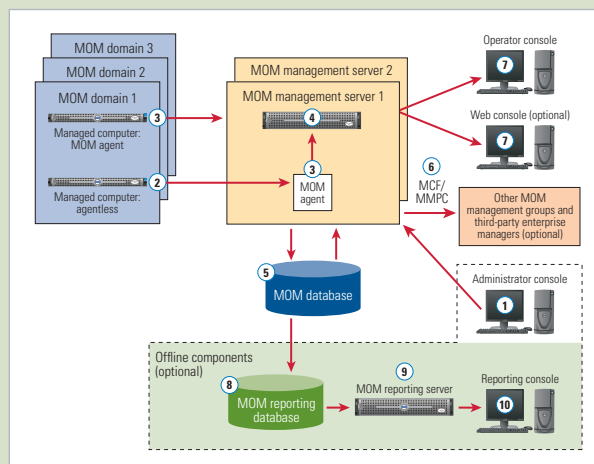

Figure 1. General processing flow of a MOM alert
Figure 1 shows the flow of an alert through the MOM components with numbered tags 1 through 10 (items 1, 8, 9, and 10 handle alerts offline only, particularly item 1, the Administrator console).